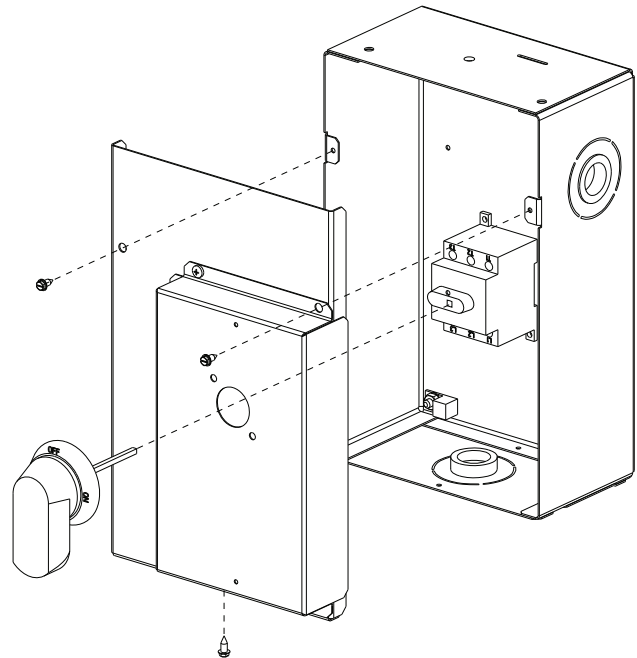

Fig. 45 — Handle and Shaft Assembly for NFD (Size 180)
To field install the NFD shaft and handle (see Fig. 45):
2. Remove (3) hex screws on the NFD enclosure - (2) on the face of the cover and (1) on the left side cover. See Fig. 45.
10. Secure the handle to the painted cover with (2) screws and lock washers supplied.
11. Engaging the shaft into the handle socket, re-install (3) hex screws on the NFD enclosure.